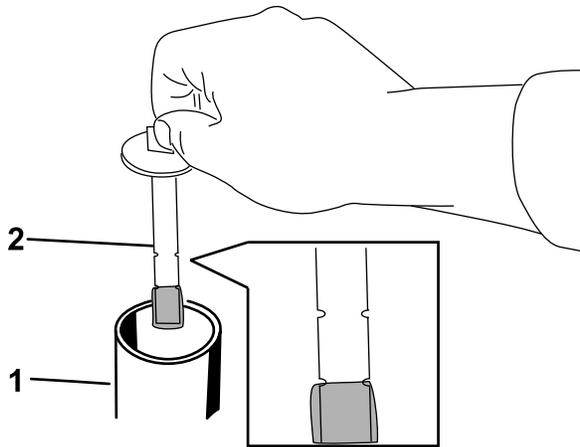

Figure 82
5. Remove the hydraulic-tank cap and dipstick (Figure 82).